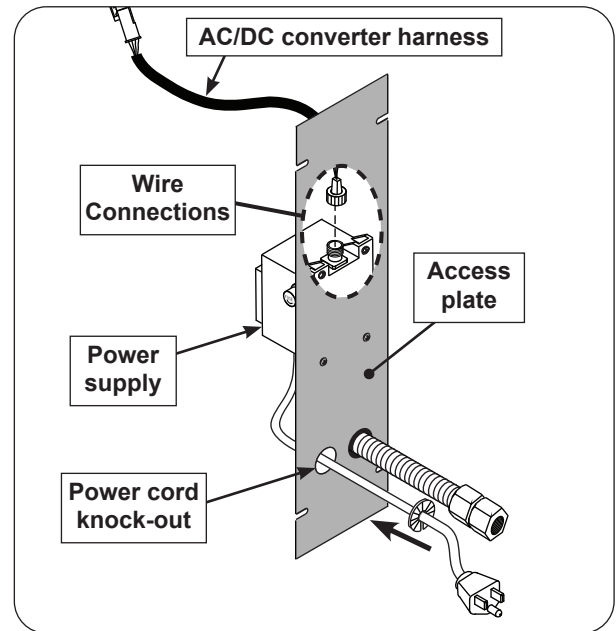

Fig. 29-1 Access plate view & orientation
A power supply is pre-mounted to the access plate. For ease of installation, disconnect the converter harness from the power supply. Locate the wires coming from the inside of the post to the power supply and carefully disconnect (see Fig. 29-1 and 29-2).
4. Install the bushing onto the power cord and slide the bushing up against the access plate knock-out hole and snap into place. See Fig. 29-1.